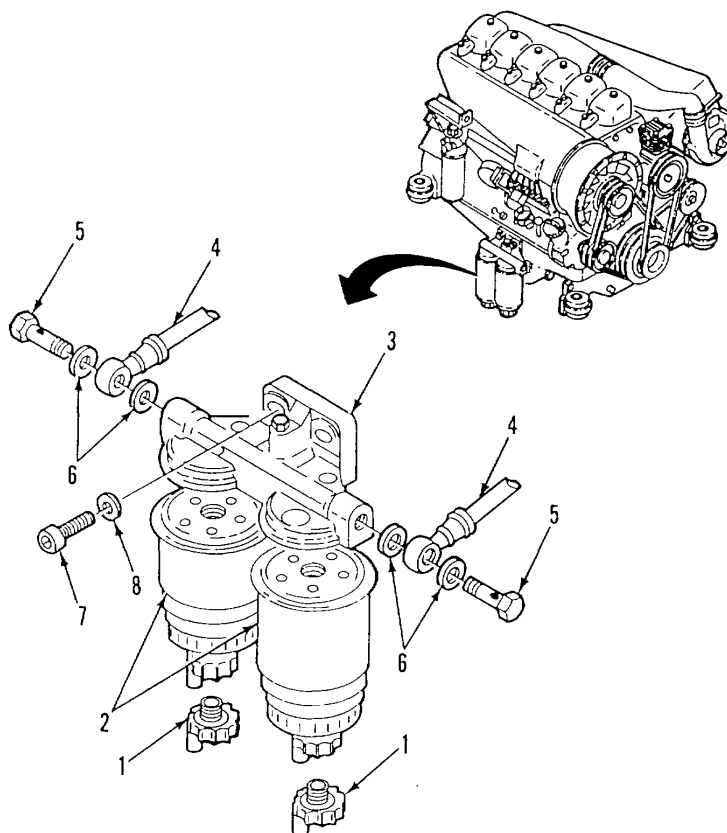

Figure 2-30. Fuel Filter Assembly
a. **REMOVE**, (Figure 2-30)
(1) Remove fuel filters (2) as follows: